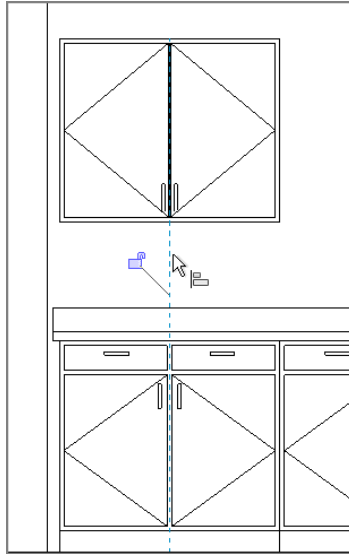

FIGURE 9.63: Aligning the wall to the base
6. Align the wall cabinet to the base cabinet, as shown in Figure 9.63.